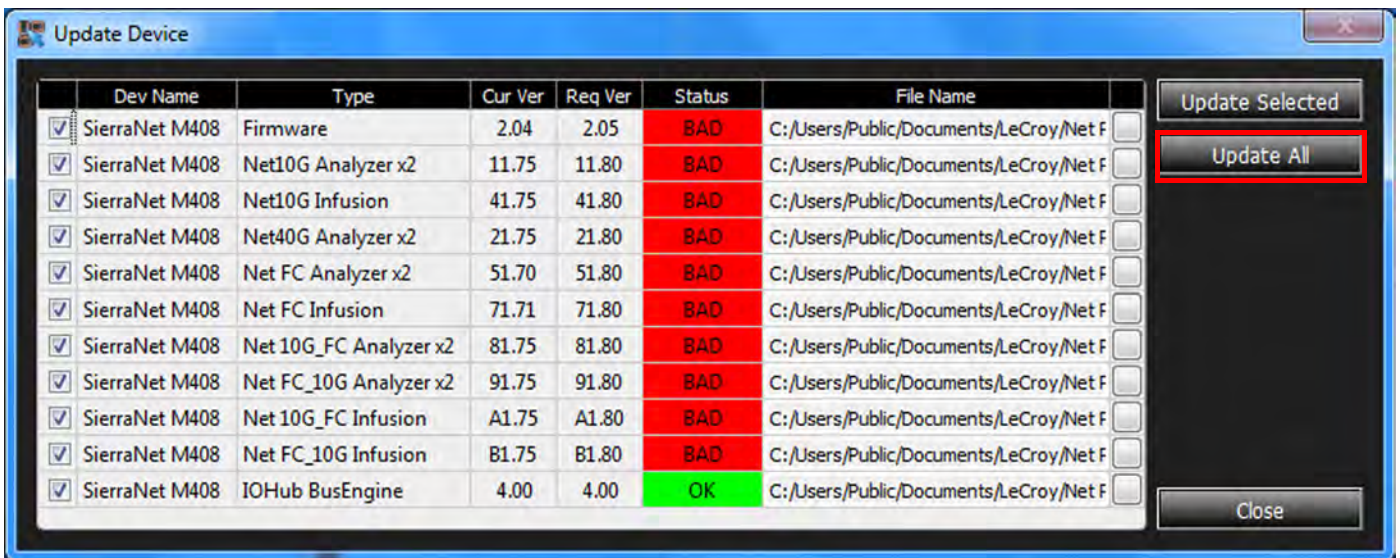

Figure 2.80: Components that need to be Updated
1. Click the **Update Device** button (Figure 2.79). This produces the Update Device dialog window that shows which components need to be updated. See Figure 2.80.